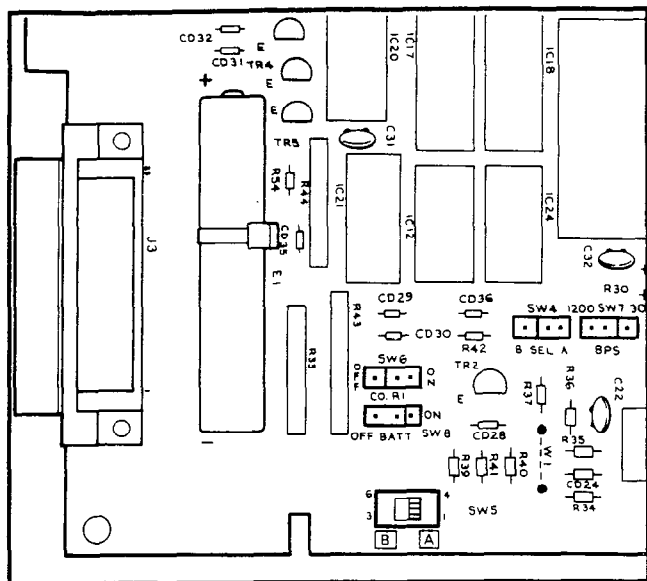

FIGURE 11
05.13 Remove the HSMB cover and locate the **SW8** battery strap (Figure 11) on the HSMB and connect the memory back-up battery. To connect the battery, install the strap-plug so that it bridges the center pin with the pin labeled **ON**.